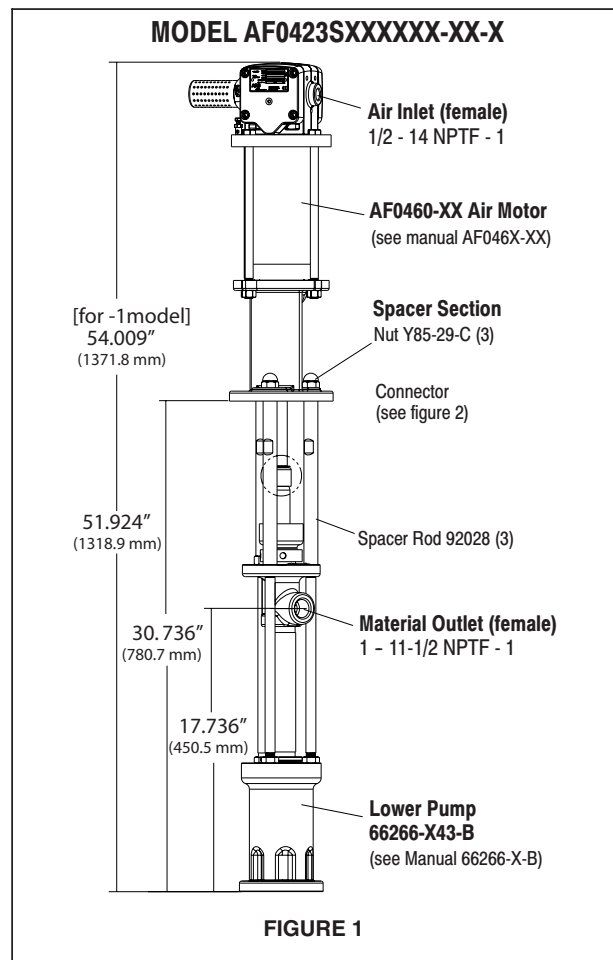

FIGURE 1
2. Remove the three (Y85-29-C) nuts from the three spacer rods (see figure 1).